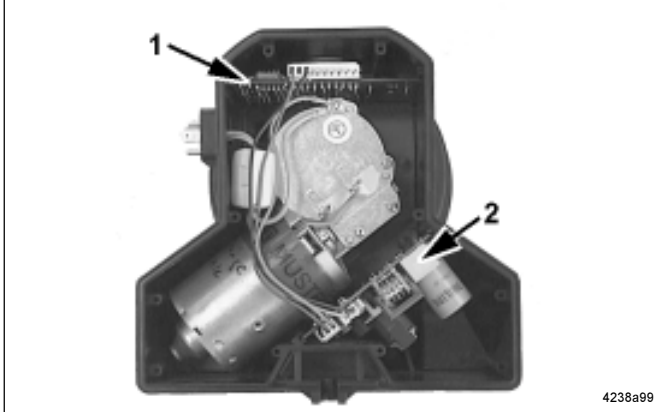

Fig. 20 - Printed circuit board in the pump housing.
- The printed circuit board 1 fig. 20 and the power supply board 2 are integrated in the pump housing.